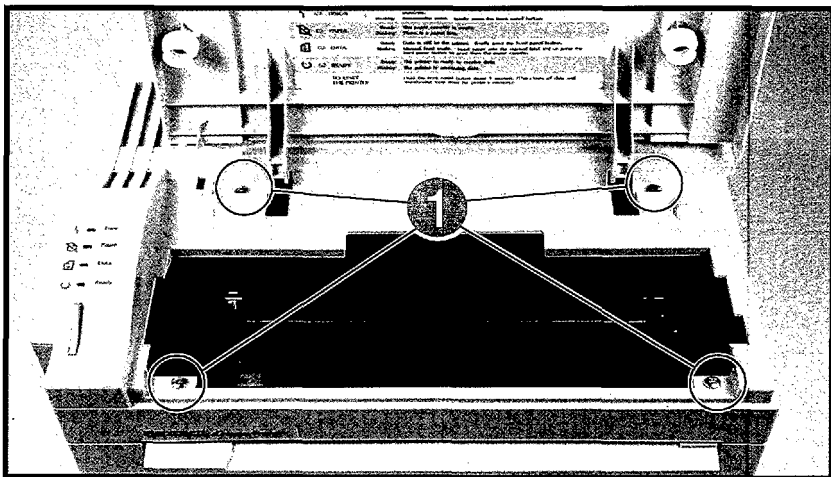

Figure 6-5 Removing the Printer Cover Screws (LaserJet 4L/4ML)
5. Remove the (4) self-tapping printer cover screws (Figure 6-5, callout 1).